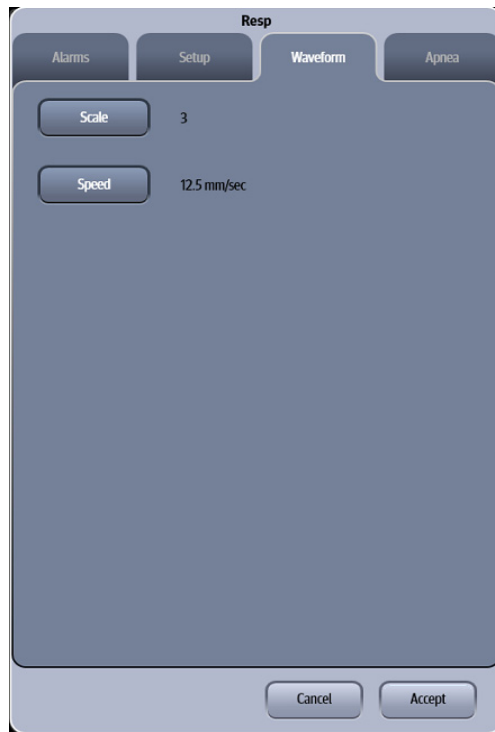

FIGURE 10-3 Example Resp Dialog (Waveform Tab)
2. Select the **Waveform** tab (as shown in FIGURE 10-3).